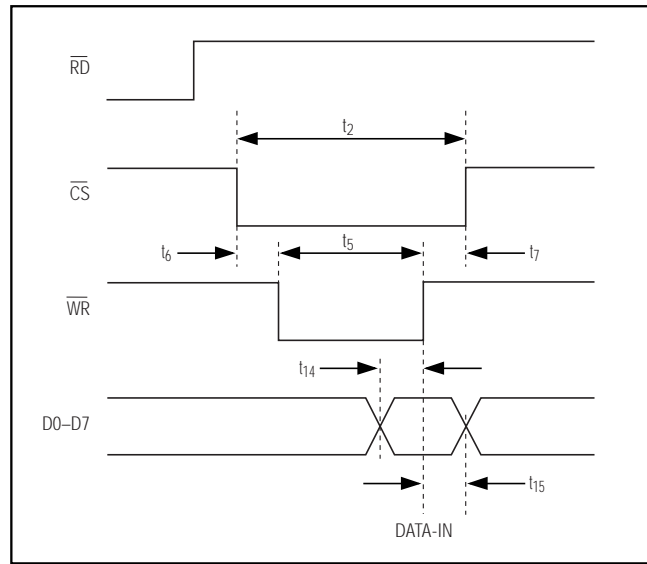

Figure 4. Write Timing
The bidirectional, parallel, digital interface sets the 8-bit configuration register (see the *Configuration Register* section) and outputs the 14-bit conversion result. The interface includes the following control signals: chip select (CS), read (RD), write (WR), end of conversion (EOC), end of last conversion (EOLC), convert start (CONVST), shutdown (SHDN), all on (ALLON), internal-clock select (INTCLK /EXTCLK), and external-clock input (CLK). Figures 4, 5, 6, 7, Table 4, and the *Timing Characteristics* section show the operation of the interface. D0-D7 are bidirectional, and D8-D13 are output only. All bits are high impedance when RD = 1 or CS = 1.
To write to the configuration register, pull \overline{CS} and \overline{WR} low, load bits D0–D7 onto the parallel bus, and force \overline{WR} high. The data are latched on the rising edge of \overline{WR} (Figure 4). It is possible to write to the configuration register at any point during the conversion sequence; however, it is not active until the next convert-start signal. At power-up, write to the configuration register to select the active channels before beginning a conversion. Shutdown does not change the configuration register. See the *Shutdown Mode* and the *ALLON* sections for information about using the configuration register for power saving.